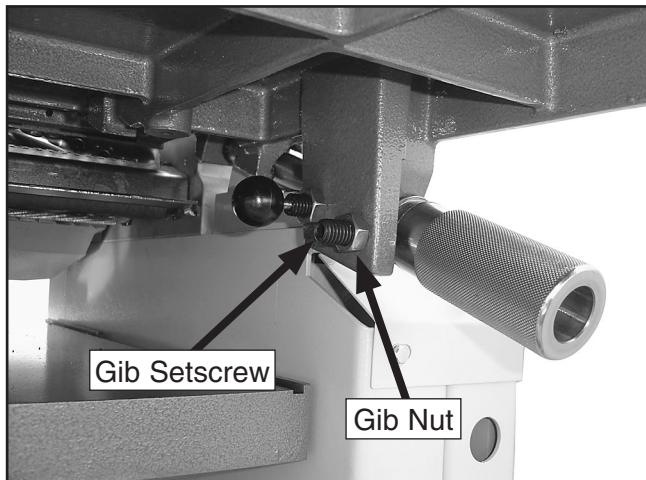

Figure 73. Infeed table gib control.
1. Using an adjustable wrench, loosen the infeed table gib nut under the rear of the table (Figure 73).